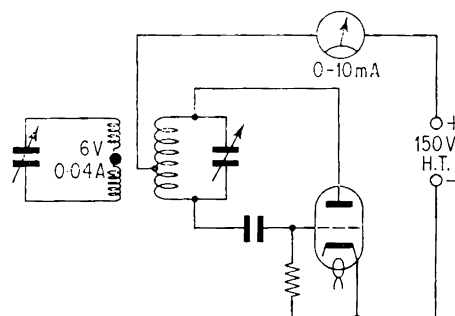

Fig. 400
Demonstration 9.24. (RF). Using the apparatus₁₀ illustrated in Fig. 400 you can generate radio frequencies around 6 MHz. The circuit on the left should be tuned until the bulb glows.